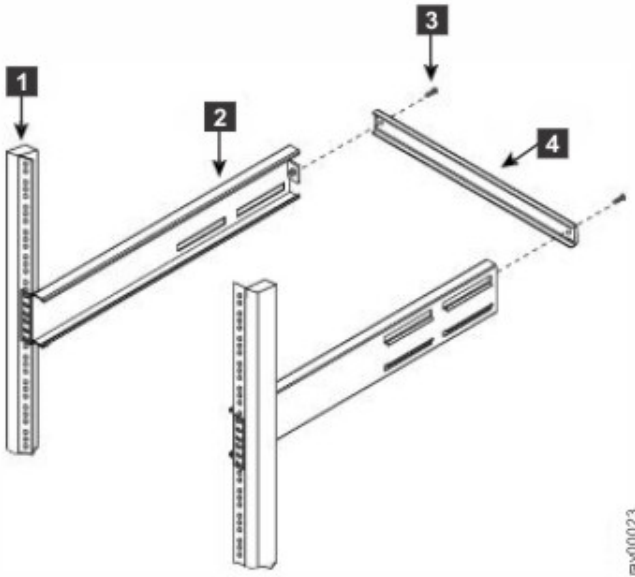

Figure 11. Installing the Shelf Bracket Kit into a Telco Rack
1. Position a shelf bracket inside a rack-mounting post as shown in Figure 11 and align the screw holes at the front of the shelf bracket with the holes in the rack-mounting post. Then, attach the shelf bracket to the rack-mounting post using a minimum of four 12-24 or 10-24 screws.
4. Attach the crossbar to the rear of the shelf brackets, as shown in Figure 11, using the 10-32 screws.